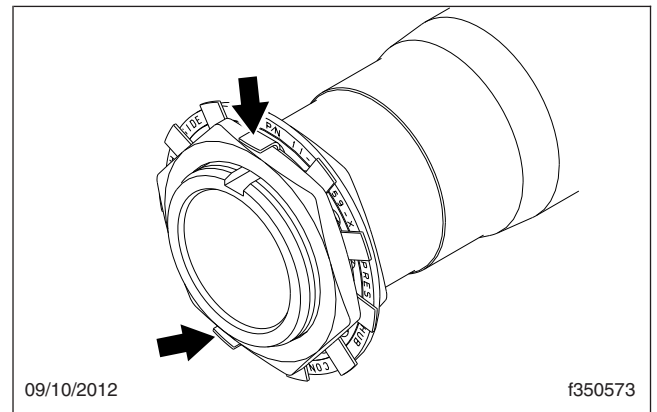

Fig. 2, Tabs Bent to Lock the Jam Nut
4. Bend the tabs on the locking washer at 6 o'clock and 12 o'clock to lock the jam nut in place. See Fig. 2.